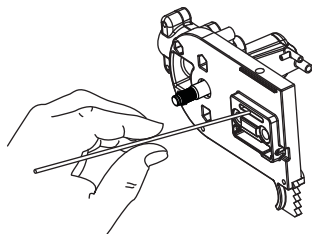

Fig. 14
- On the bar pad use a soft wire small enough to insert into the oil discharge hole, scrape any saw dust or debris away. (Fig. 14)